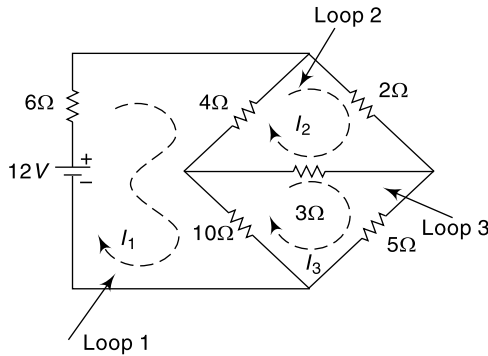

Fig. 4.46 Circuit of Ex. 4.31
4.31 Find the currents in 2Ω , 3Ω , 4Ω , 5Ω and 10Ω resistances in the circuit shown in Fig. 4.46 using loop method.
Let us first mark the loop current in Fig. 4.46 as shown by dotted arrows.